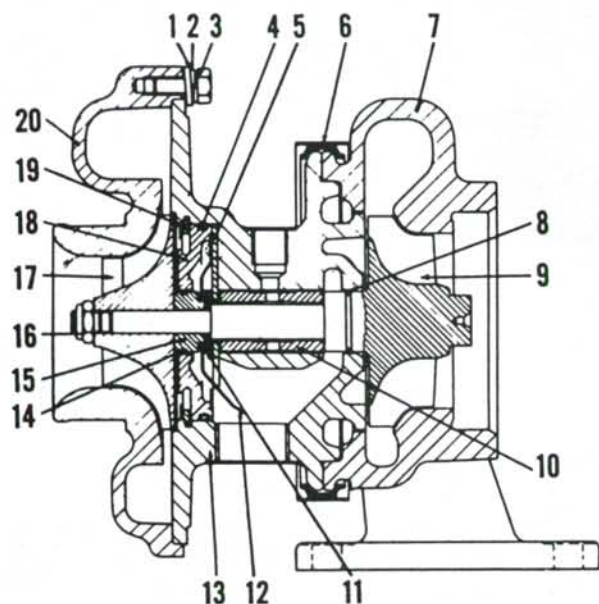

Fig. 102—Sectional view of Holset turbocharger showing component parts and their relative positions.
128. OVERHAUL HOLSET TURBOCHARGER. Remove turbocharger unit as outlined in paragraph 126. Mark compressor cover, center housing, turbine housing and clamp positions for reassembly. Remove clamp (6—Fig. 102) and lift core from turbine housing (7). Remove screws (3), then separate from compressor cover (20). Clamp a $\frac{5}{8}$ inch 12-point wrench in vise, locate hub of turbine wheel (9) in wrench and remove nut (16). Carefully slide compressor wheel (17) from shaft. Turbine wheel and shaft (9) and bearing (10) can be removed from housing. Use snap ring pliers to remove large retaining ring (19), then pry insert (18) from housing bore. Remainder of parts can be lifted out. Oil deflector (12) and thrust plate (5) are located by two groove pins which should not be removed.
Use care to not overexpand ring (8—Fig. 102) when installing in groove. Lubricate turbine shaft (9) and ring (8), then assemble in bore of housing (13). Lubricate bearing (10), then install over turbine shaft and into housing bore. Lubricate thrust plate (5), then install in housing with bronze side up and holes engaging groove pins. Install thrust ring (11) over shaft and onto thrust plate, then position oil deflector over shaft and groove pins. Install ring (14) in groove of spacer sleeve (15), lubricate parts and slide spacer sleeve into bore of insert (18). Install "O" ring (4) in groove, lubricate outside diameter, then slide insert (18) with spacer sleeve (15) and "O" ring installed into bore of housing.